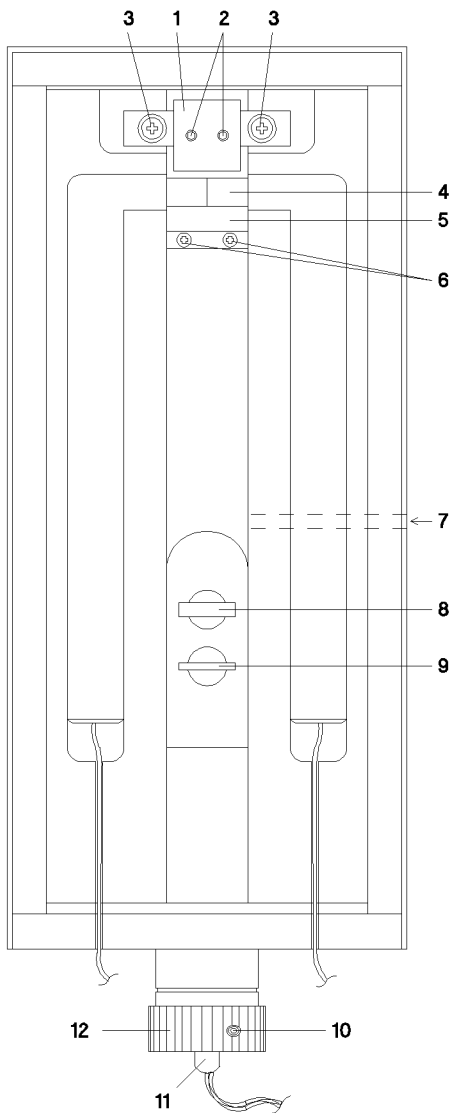
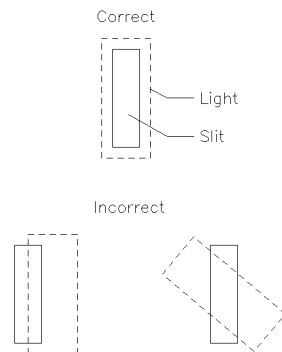

Figure 3-8. Inside the Optical Unit
Figure 3-9. Light on Slit
2. Refer to *SECTION 6: Parts Identification*, Figure 6-5. Remove the optical unit top cover (item 13), insulation (item 9) and optics cover (item 12). Removing these covers will expose the optics, as shown in Figure 3-8.
5. Turn on detector power. Refer to Figure 3-8. The light from the lamp should be clearly seen in the area of the slit. Now, rotate the lamp until the slit is completely covered by the light, as shown in Figure 3-9.
4. Refer to Figure 3-8 to identify the flow cell assembly as it appears in the uncovered optical unit. Also note the location of the mirror.
3. To identify the mirror, refer to Figure 3-8 preceding.
3. Refer to Figure 3-8 preceding. Set both the optical balance glass and the mirror adjust glass to be perpendicular to the light beam ... best estimation by eye is ok. Note that the mirror adjust glass movement is accessed through a hole in the side of the optical unit. This hole may be reached by removing the front panel cosmetic plug (*SECTION 6: Parts Identification*, Figure 6-3 item 3). For this purpose, use a long, flat blade screwdriver with a blade no more than 4 mm wide.
Average intensity (TP1/2 buttons pressed together) must be no less than -3.5, but you should strive for the maximum intensity. Typical intensities are from -4.0 to -5.5. When TP1 and TP2 are within 0.2 of each other, you may use the mirror adjust glass (Figure 3-8) to make them equal. **DO NOT** use the mirror adjust glass to compensate for a difference greater than 0.2!